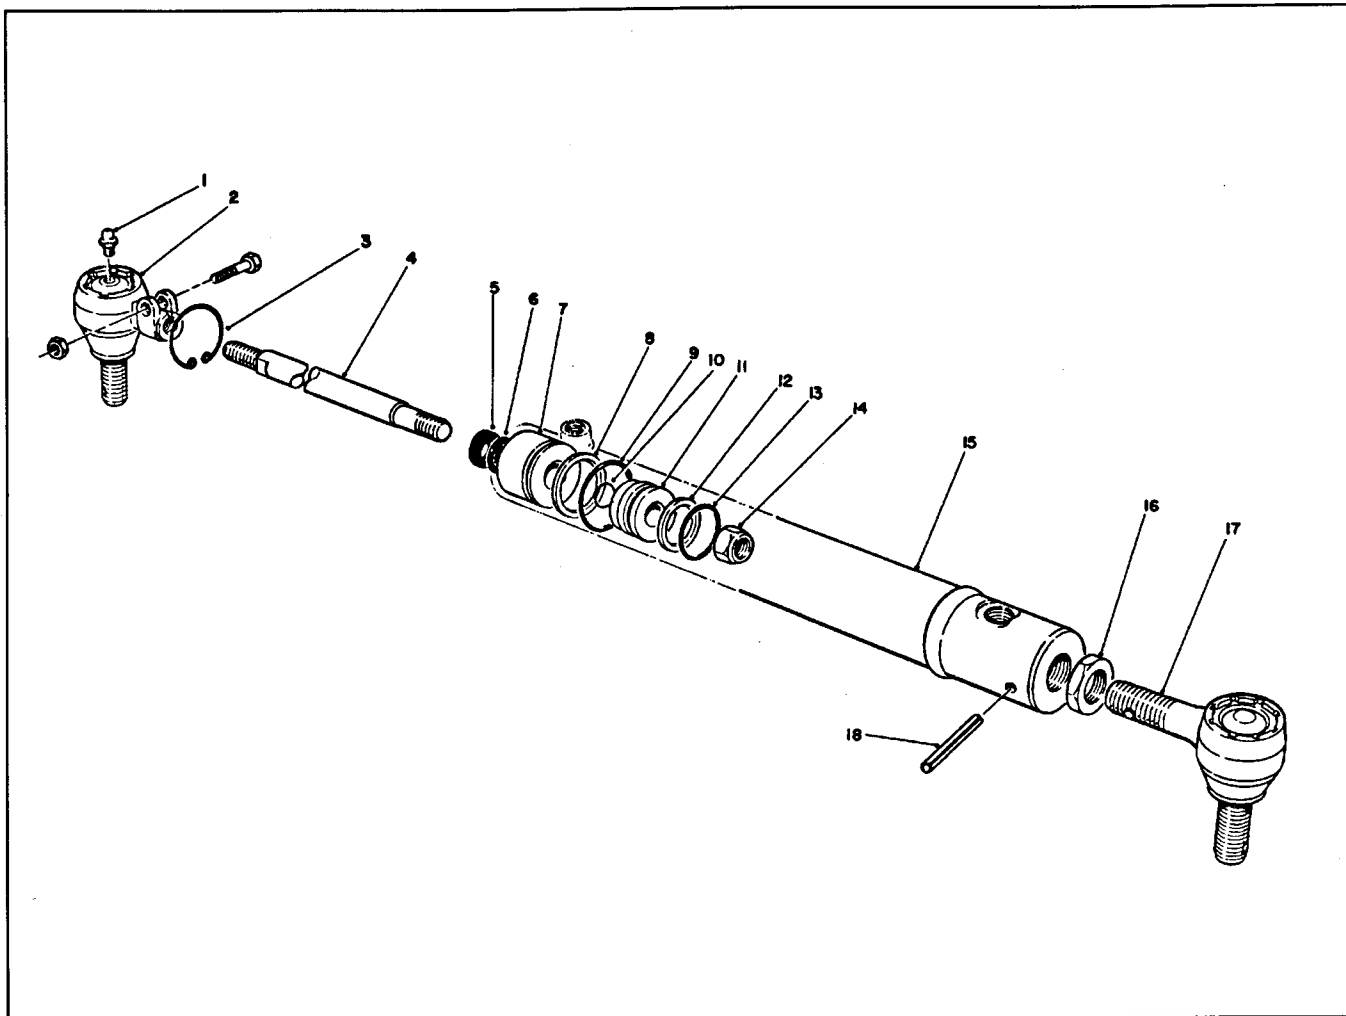

Figure 48
Ball joint (Fig. 48, Item 2) must be adjusted on cylinder shaft so steering arms hit stops on rear axle in either direction. Toe-in must be adjusted first. (See Steering Cylinder Adjustment in the Adjustments section of Chapter 6 - Wheels, Brakes and Steering.)
4. Use a snap ring pliers to remove retaining ring (Fig. 48).